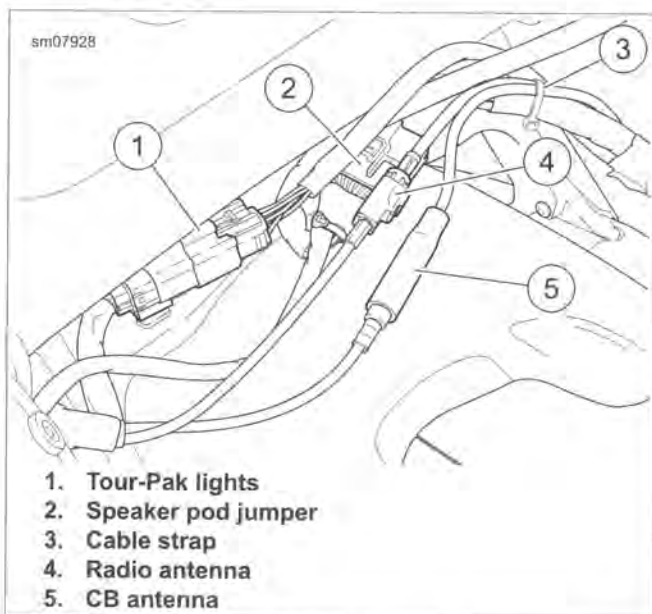

Figure 7-87. Tour-Pak Harness Connectors
2. See Figure 7-87. Separate rear audio connector from main harness.